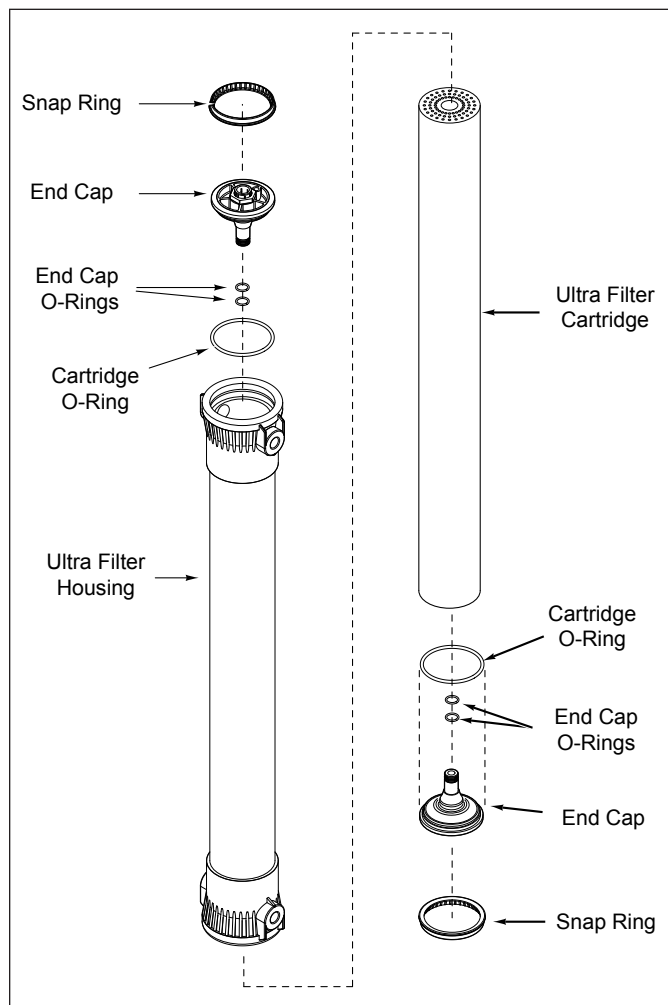

Figure 8. Replacing the Ultra Filter Cartridge
5. Remove the Snap Ring (Figure 8) from the Ultra Filter Housing. Grab the raised lug with a pair of pliers and pull towards the center of the End Cap and away. The Snap Ring should lift out of its groove.
6. Remove the End Cap, End Cap O-Ring, and Cartridge (Figure 8) from the housing.